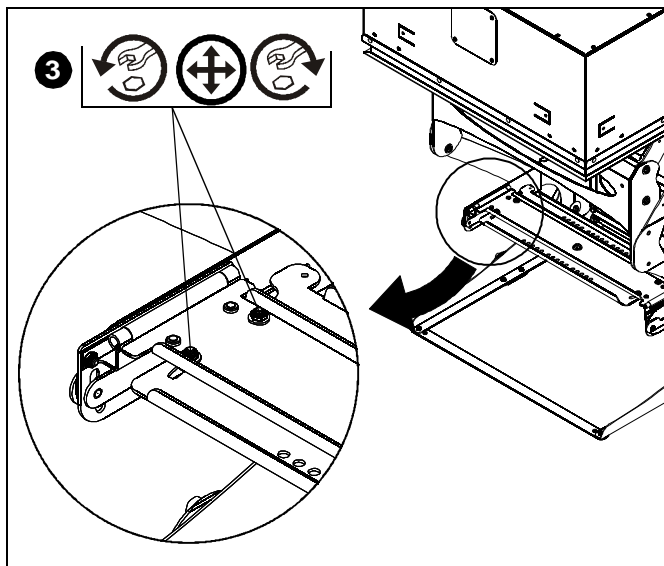

Figure 15
- Adjust one or the other side of the yaw adjustment bracket backward or forward by loosening two nuts on each side. (See Figure 15)
- Tighten nuts. (See Figure 15)